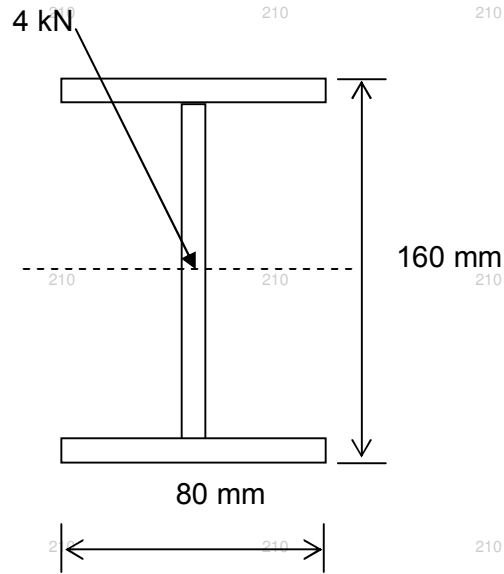

Figure 1
Q5 Write the expression for orientation of neutral axis in unsymmetrical bending. A simply supported I-beam of 2-m span carries a central load of 4 kN (Fig.1). The load acts through the centroid, the line of action is inclined at 30° to the vertical direction. Determine the maximum stress. The thickness of flanges and web is 10 mm. (10)